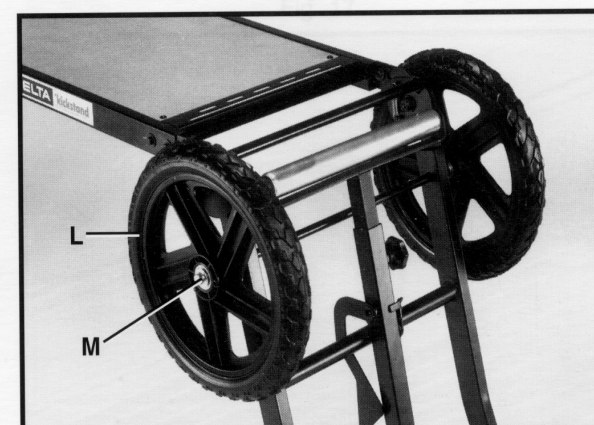

Fig. 10
7. Place remaining wheel (L) Fig. 10, on axle and hammer axle cap (M) onto end of axle. **NOTE:** Opposite end of axle must be supported while axle cap (M) is assembled to end of axle.